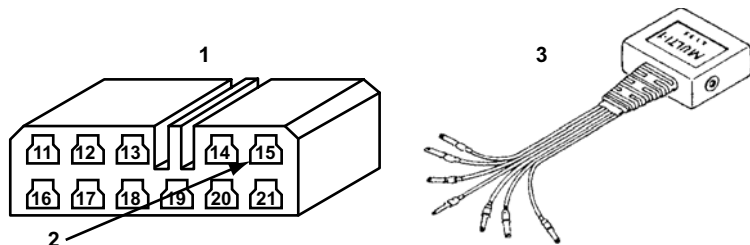

Figure 15-20 11-pin Check Connector
- Connect the blue wire of the MULTI-1 adapter to pin 15 of the Check connector (Figure 15-20).